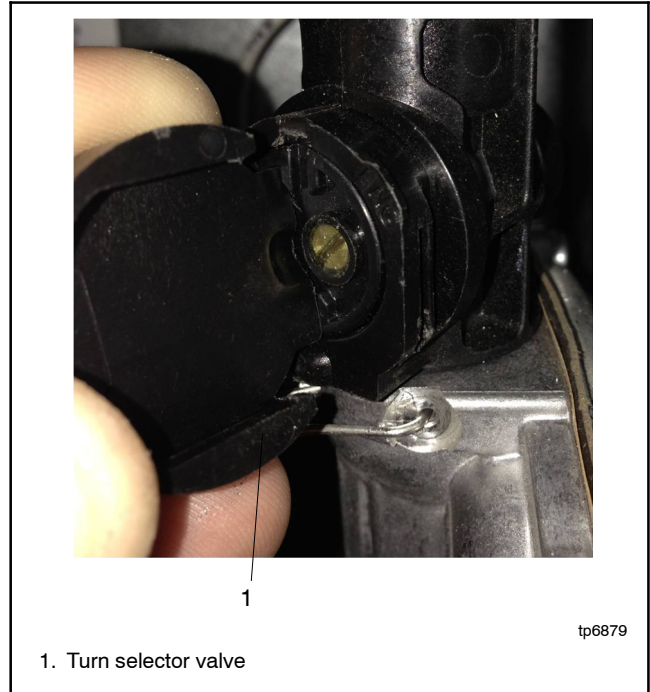
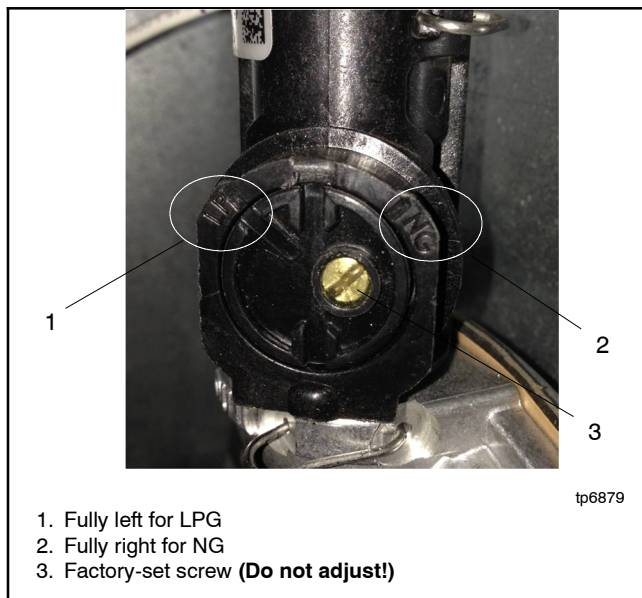

Figure 1-14 Fuel Selection
Figure 1-15 Valve Positions
Note: Do not adjust the factory-set screw on the selector valve. Adjusting the screw may violate federal and state laws. See Figure 1-15.
7. See Figure 1-14. Use the cap in the orientation shown to turn the selector valve to NG or LP. See Figure 1-15 for valve positions.